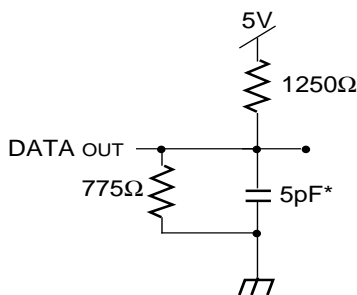

Figure 2. Output Test Load (for tHZ, tLZ, twz, and tow)
1. Transition is measured $\pm 500\text{mV}$ from Low or High-impedance voltage Output Test Load (Figure 2).
1. Transition is measured $\pm 500\text{mV}$ from Low or High-impedance voltage with Output Test Load (Figure 2). This parameter is guaranteed by device characterization but is not production tested.
7. This parameter is determined by device characterization, but is not production tested. Transition is measured +/- 500mV from steady state with the Output Test Load (Figure 2).